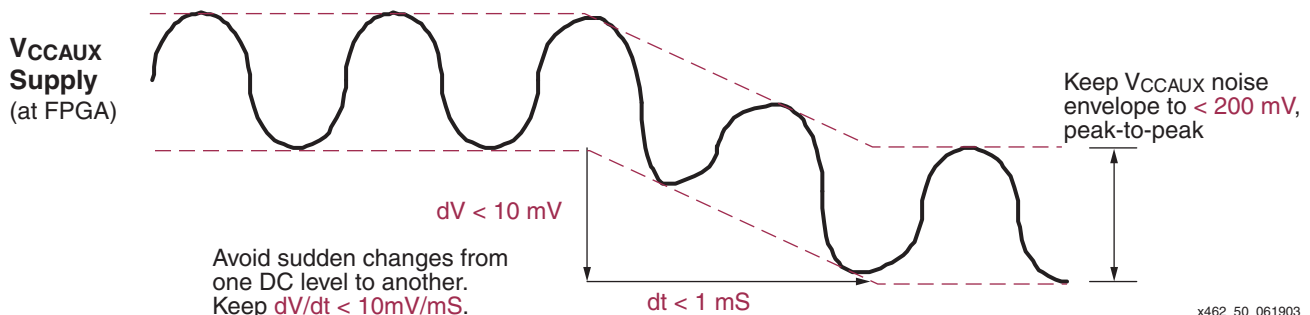

Figure 3-51: Recommended V_{CCAUX} Supply Considerations Avoid Voltage Droop
1. Limit changes on the V_{CCAUX} power supply or ground potentials to less than 10 mV total or 10 mV in any 1 ms interval, as shown in Figure 3-51. This recommendation allows the DCM to properly track out the change.
2. Limit the noise at the power supply to be within 200 mV peak-to-peak, as shown in Figure 3-51.